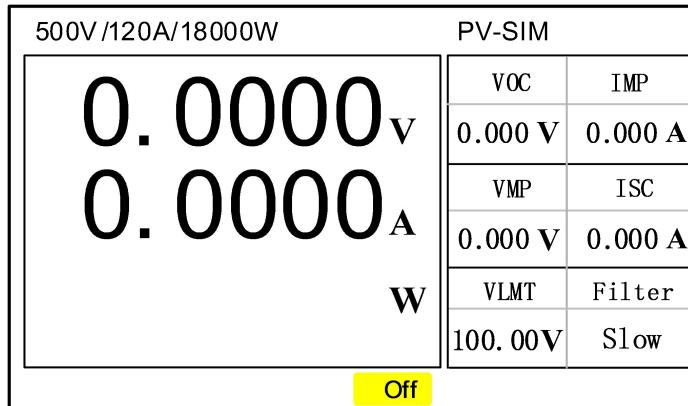

Figure 3- 25 Customized edit interface for photovoltaic file
3. Set“PV-SIM”function parameters, detail as figure3- 9customized parameter list of photovoltaic function;